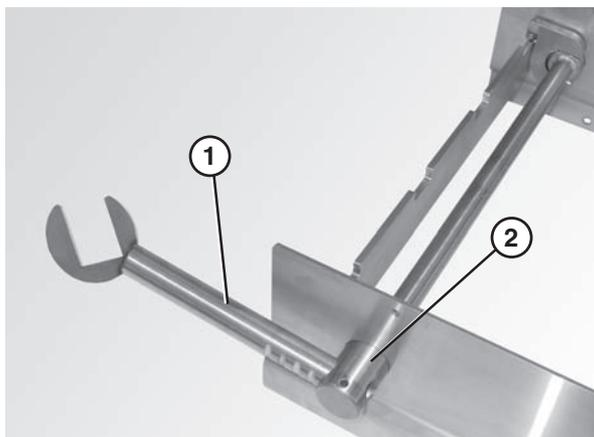

Figure 22
- Attach the nose bar idler shaft hands (Figure 22, item 1) to the tip up shaft (Figure 22, item 2).